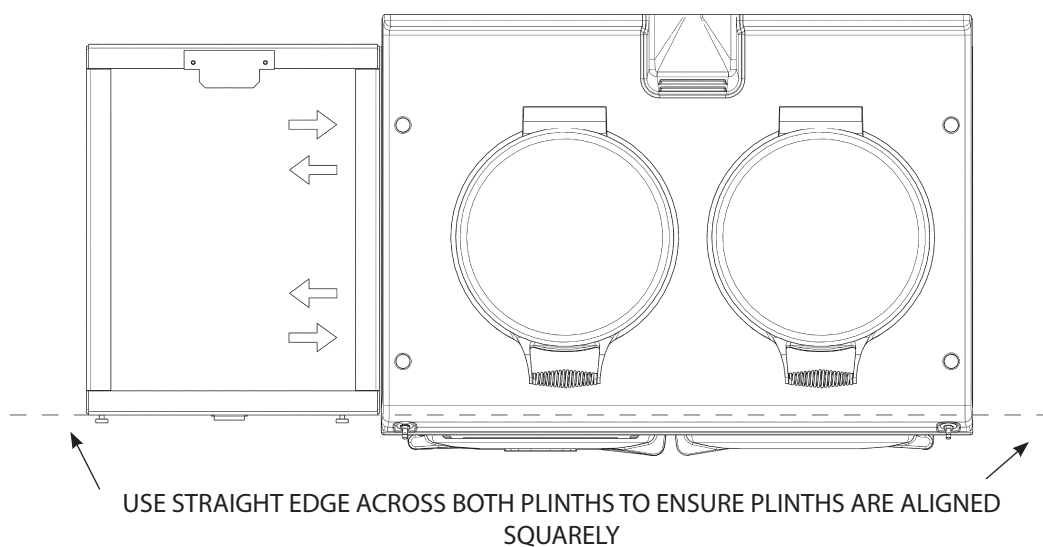

Fig. 31.5
4. Run a straight edge along the front of the AGA eR7 plinth, to ensure the front face of both plinths sit squarely against the straight edge. (**Fig. 31.5**)